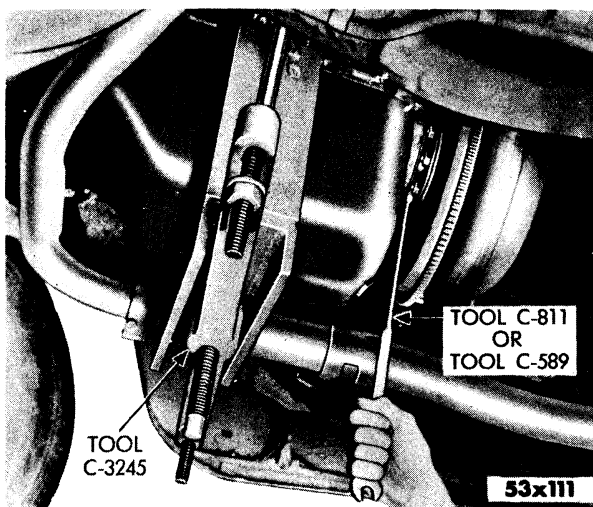

Fig. 68—Removing or Installing Torque Converter Mounting Stud Nuts
- (6) Using wrench, Tool C-811, remove the eight torque converter stud nuts and lockwashers from crankshaft flange, as shown in Figure 68.
- (7) Remove torque converter from crankshaft.
- (8) Check crankshaft flange runout (maximum .002 inch).